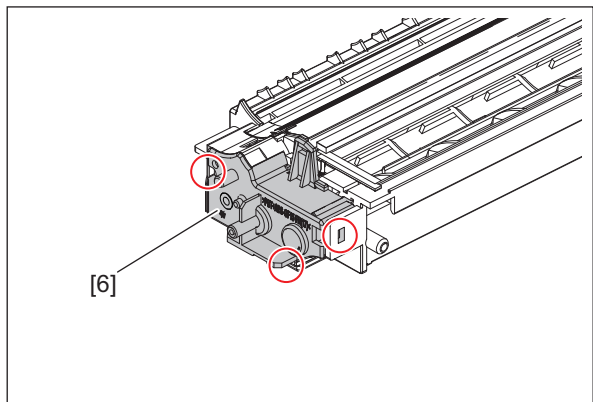

Fig. 4-166
- (1) Insert a fine screwdriver into the depression of the oil seal to take it out.
- (2) Push in a new oil seal parallel to the frame or bushing Refer to Fig.4-166.
- (3) Apply the grease (Alvania No.2; amount of 2 rice grains) on entire surface of the oil seal evenly.